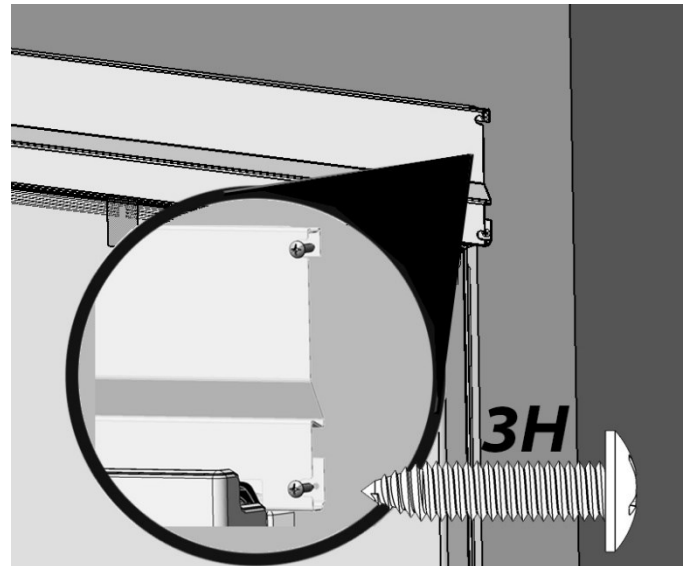

Figure 19
- b. Drill 1/8" pilot holes and fasten two 3H screws on the right side of the Top Trim (one screw per side for Collared top trim) with a Phillips driver to cabinets (Figure 19).